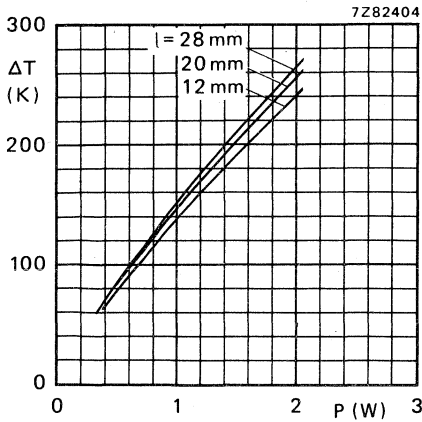

Fig. 3 Hot-spot temperature rise (ΔT) versus dissipated power (P) at different lead lengths (l), leads $\phi = 0,6$ mm.
- Temperature rise (ΔT) of the resistor body as a function of dissipation see Figs 3 and 4